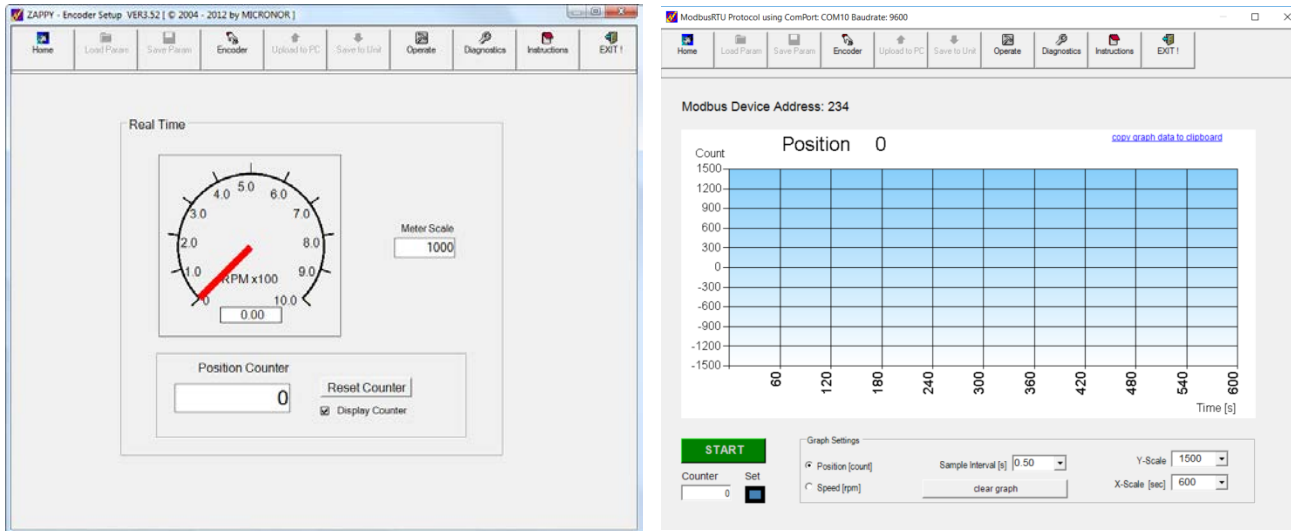

Figure 16. Initial OPERATE Screen if encoder is inactive. New Version 4.00 right
- STEP 2.** An initial check would be to deliberately and semi-precisely turn the encoder shaft for one revolution and note if the correct number of counts is displayed. (HINT: A little adhesive tape flag formed around the encoder shaft would provide some degree of finger control.) An active [OPERATE] screen is also shown in Figure 16.